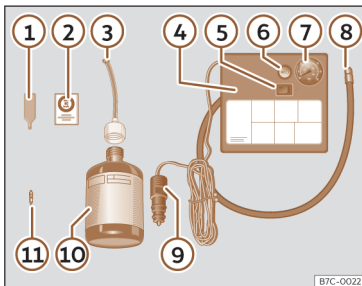

Fig. 31 Standard representation: anti-puncture kit contents.
The anti-puncture kit is located underneath the floor covering in the luggage compartment. It includes the following components >>> **Fig. 31**:
- Unscrew the tyre valve cap and insert. Use the >>> **Fig. 31** ① tool to remove the insert. Place it on a clean surface.
- Shake the tyre sealant bottle vigorously >>> **Fig. 31** ⑩.
- Screw the inflator tube >>> **Fig. 31** ③ into the sealant bottle. The bottle's seal will break automatically.
- Remove the lid from the filling tube >>> **Fig. 31** ③ and screw the open end of the tube into the tyre valve.
- Place the insert back into the tyre valve using the tool >>> **Fig. 31** ①.
- Screw the compressor tyre inflator tube >>> **Fig. 31** ⑧ into the tyre valve.
- Check that the air bleed screw is closed >>> **Fig. 31** ⑥.
- Insert the connector >>> **Fig. 31** ⑨ into the vehicle's 12-volt socket >>> **page 141**.
- Turn the air compressor on with the ON/OFF switch >>> **Fig. 31** ⑤.
- Attach the sticker >>> Fig. 31 ② to the instrument cluster, within the driver's visual field.
Screw the inflator tube >>> Fig. 31 ⑤ again and check the pressure on the gauge ⑥.